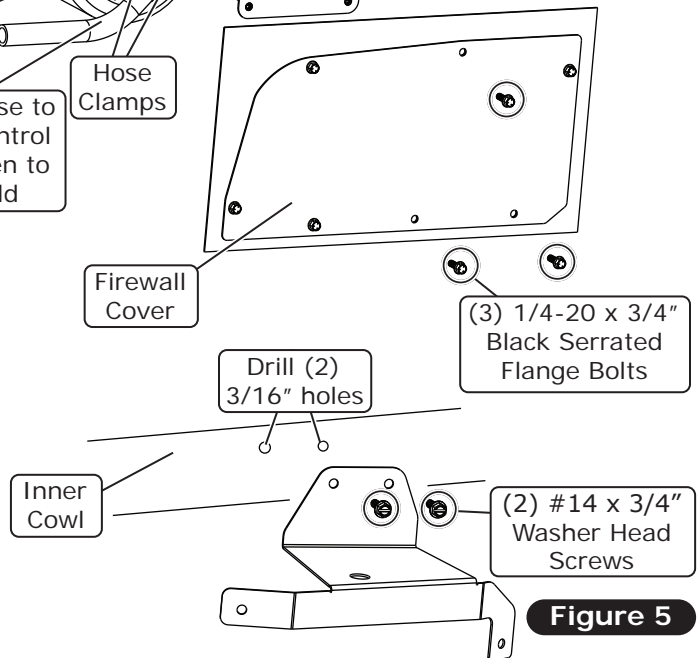

Figure 5
7. Using the evaporator to the evaporator/dash bracket as a guide, mark and drill (2) 3/16" holes into the cowl (See Figure 5, below).
8. Use (2) #14 x 3/4" washer head screws to secure the evaporator to the evaporator/dash bracket to the inner cowl (See Figure 5, below).